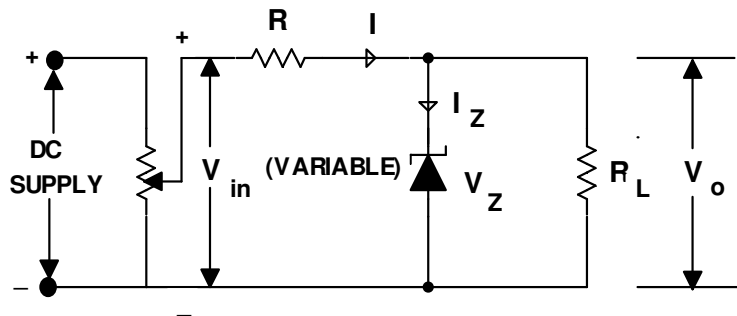

Fig. 31(a)
**Marks (8)**
**Ans: Zener diode as a Voltage Regulator:** It provides a constant voltage to the load from a source whose voltage may vary over sufficient range. Fig.31(a) shows the circuit arrangement. The zener diode of zener voltage  $V_z$  is reverse connected across the load  $R_L$  across which constant voltage ( $V_o = V_z$ ) is desired. A resistor  $R$  is connected in series with the circuit which absorbs the input voltage fluctuations so as to maintain constant voltage ( $V_o$ ) across the load. Let a variable voltage  $V_{in}$  be applied to the regulator. When the value of  $V_{in}$  is less than Zener voltage  $V_z$  of the zener diode, no current flows through it and the same voltage appears across the load. When the input voltage  $V_{in}$  is more than  $V_z$ , this will cause the Zener diode to conduct a large current  $I_z$ .